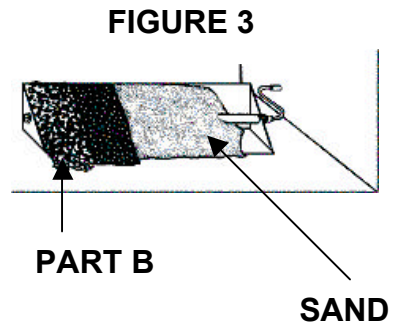

FIGURE 4
3. The remaining logs are **top logs**. These logs are placed diagonally across the bottom logs and can be arranged to create the most realistic flame patterns. (See Figure 4).